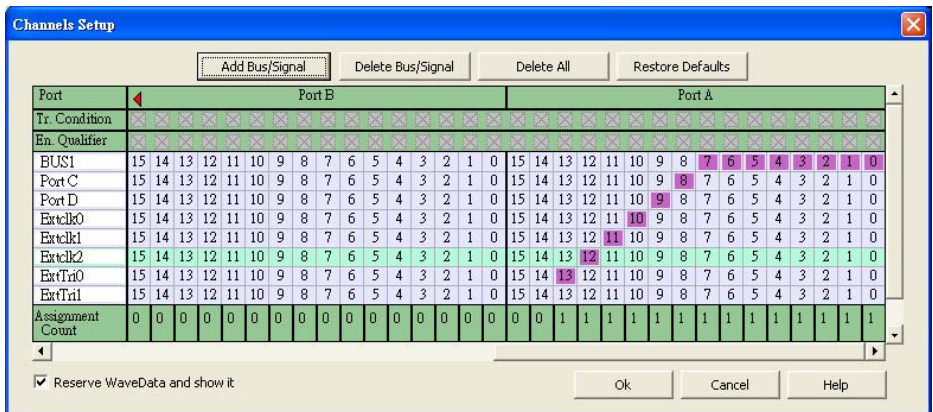

Fig 3-21 – Channel setup
The dialogue window shown in Fig 3-21 will appear.
3. Restore Defaults, click Restore Defaults to restore the dialogue of Channels Setup as shown in Fig 3-21.